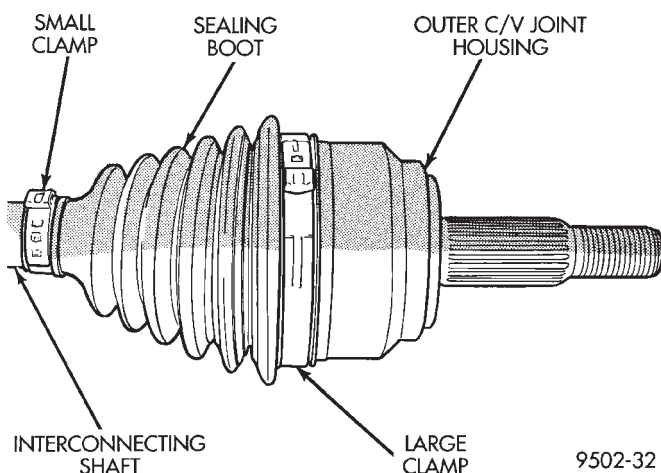

Fig. 41 Outer C/V Joint Seal Boot Clamps
(1) Remove driveshaft assembly requiring boot replacement from vehicle. See Servicing Driveshaft in this section for the required driveshaft removal procedure.
(2) Remove large boot clamp retaining C/V joint sealing boot to C/V joint housing (Fig. 41) and discard. Remove small clamp that retains outer C/V joint sealing boot to interconnecting shaft and discard. Remove sealing boot from outer C/V joint housing and slide it down interconnecting shaft.